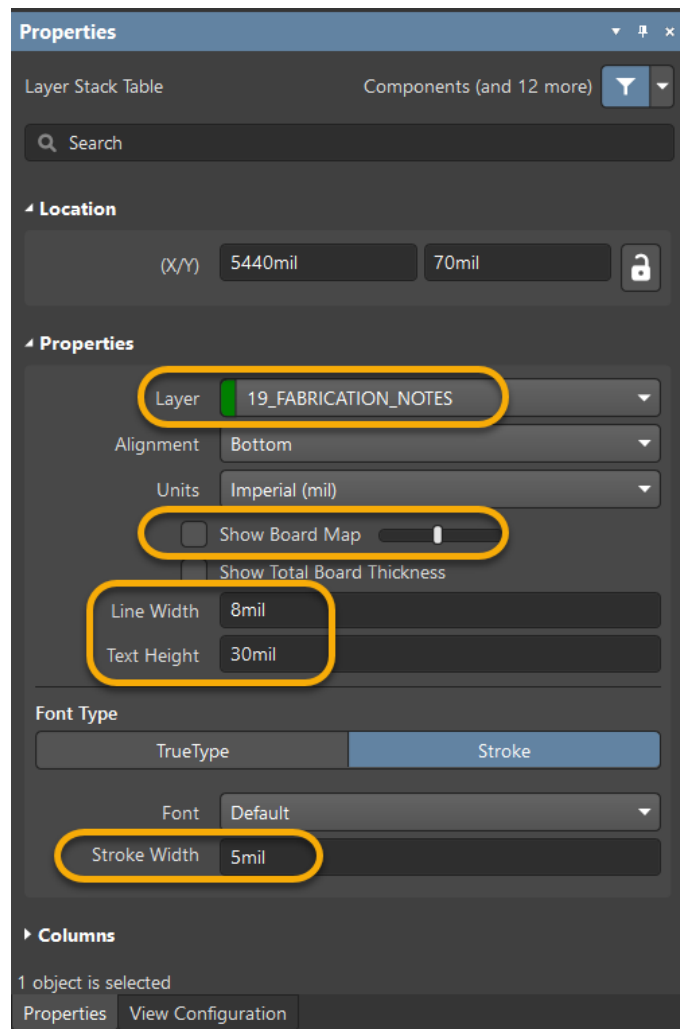

Figure 8. Layer Stack Table
29. Modify the following parameters in the *Properties* panel as shown in Figure 8: